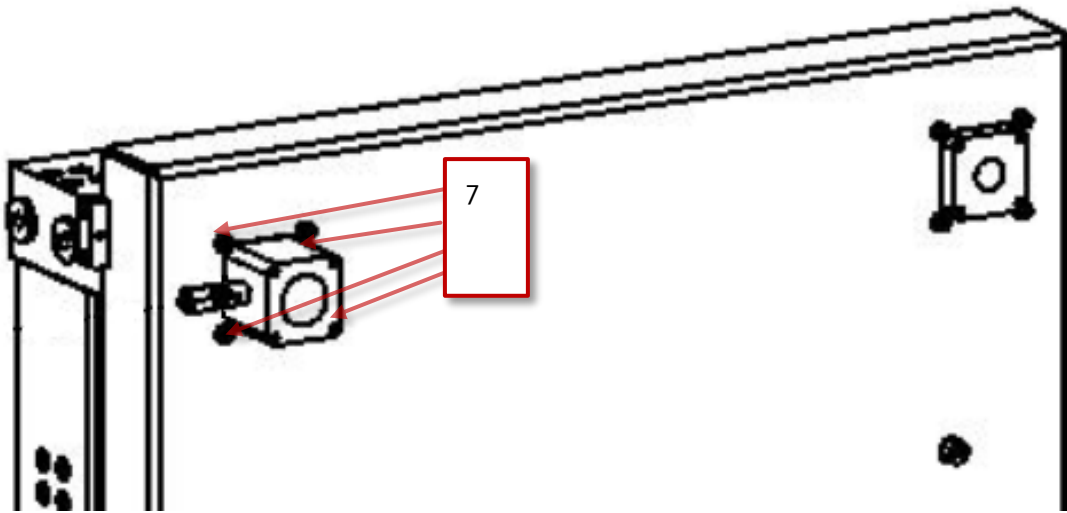

Figure 68 Loosen screws at the back
7. Loosen the four screws (M5) at the back of the generator around the water connection out unit, see Figure 68.